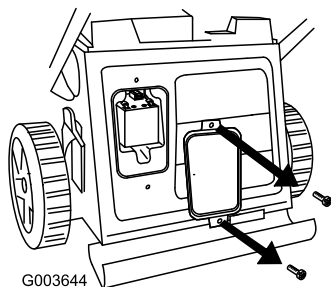

Figure 10
- Remove the 2 screws that fasten the battery cover to the rear of the mower (Figure 10).